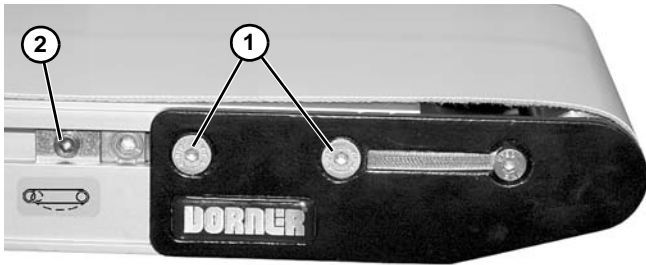

Figure 32
3. After adjusting proper tensioning, tighten fastening screws (**Figure 32, item 1**) on both sides of conveyor to 60 in-lb (7 Nm).
4. If equipped with cam tracking assemblies (**Figure 32, item 2**), position against head plates and adjust belt tracking. Refer to “Conveyor Belt Tracking” on page 16.